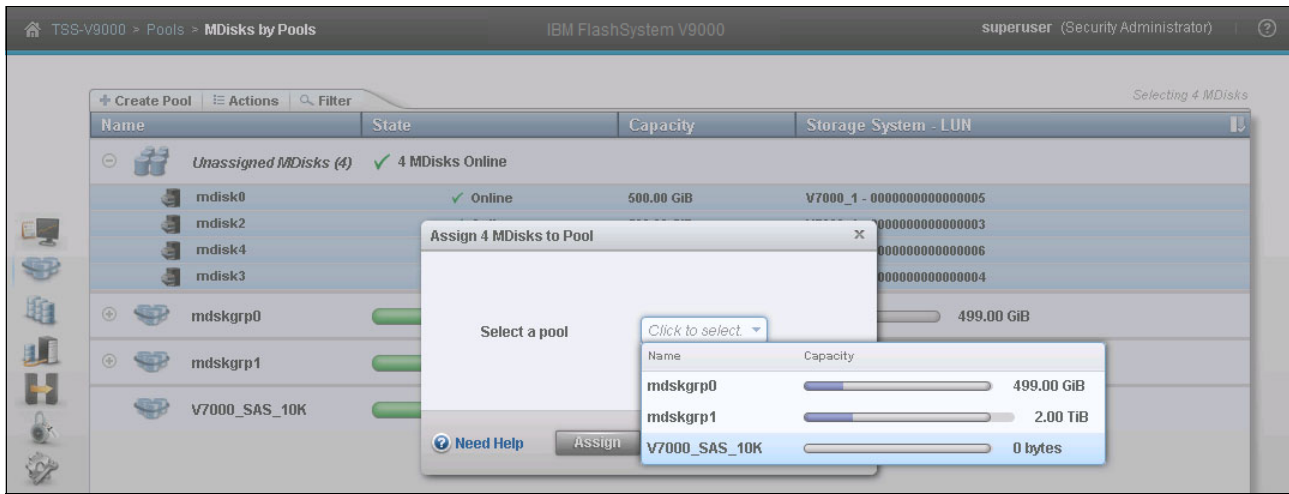

Figure 8-71 Select pool and assign disks
3. Select the newly created pool (V7000\_SAS\_10K) and click **Assign** (Figure 8-71).